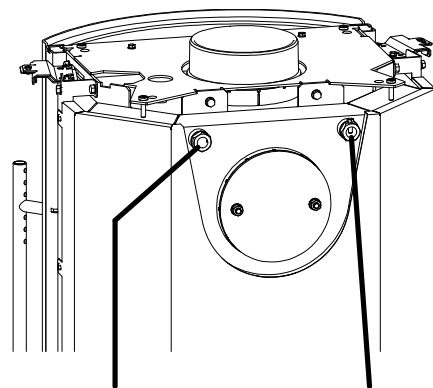

Fig. 3 Sensor pocket for TAS Sensor pocket for temperature sensor „Temperature Difference Controller“
- Slide the temperature sensor of the "Temperature Difference Controller" into the right-hand sensor pocket and secure it using the threaded screw (Fig. 3).